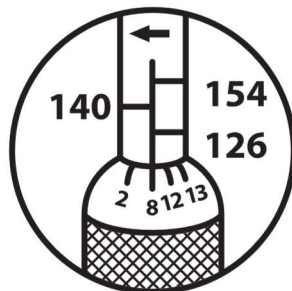

FIG1 112Nm
2. Turn knurled handle clockwise until 8Nm graduation on the bevel edge of the handle is in line Lock handle securely by turning lock nut clockwise, and now wrench is set at 120 Nm which is ready to use. See Figure 1 and 2